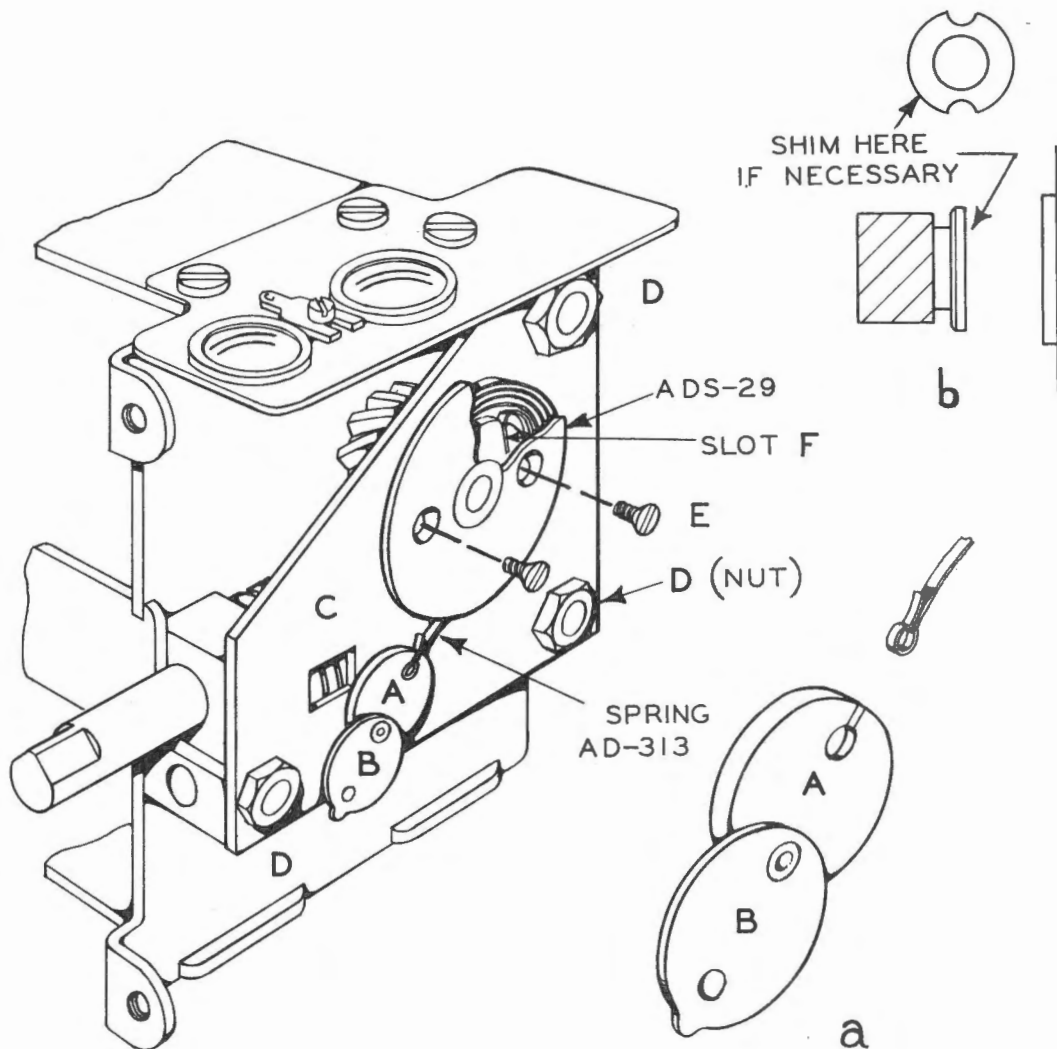

**Figure 15 — Condenser — Mounting of Adapter Plate Assembly
12. (FIG. 15) Install adapter plate Assembly ADS-27 (A) on the three studs (B).